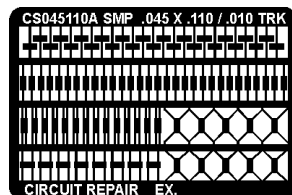

Figure 2: Select a replacement surface mount pad that matches the missing pad.
6. Select a replacement surface mount pad that most closely matches the size and shape of the missing surface mount pad. (See Figure 2).